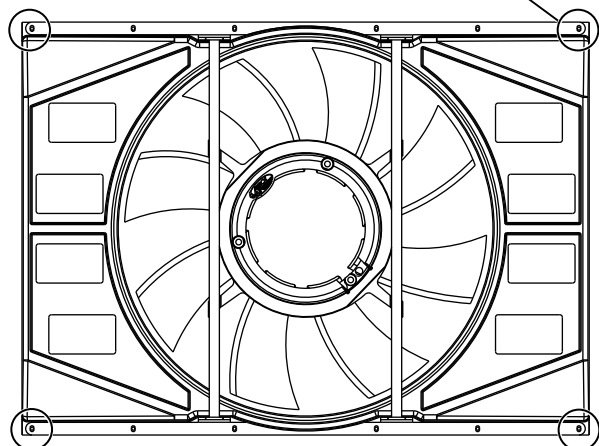

Figure 1
2. Ensure the fan blade is evenly spaced all the way around the shroud, then use (4) clamps to secure it as shown in Photo 2, below.
3. Using a 1/8" drill bit, drill through the shroud on all (4) corners (See Photo 3 and Figure 1, below).